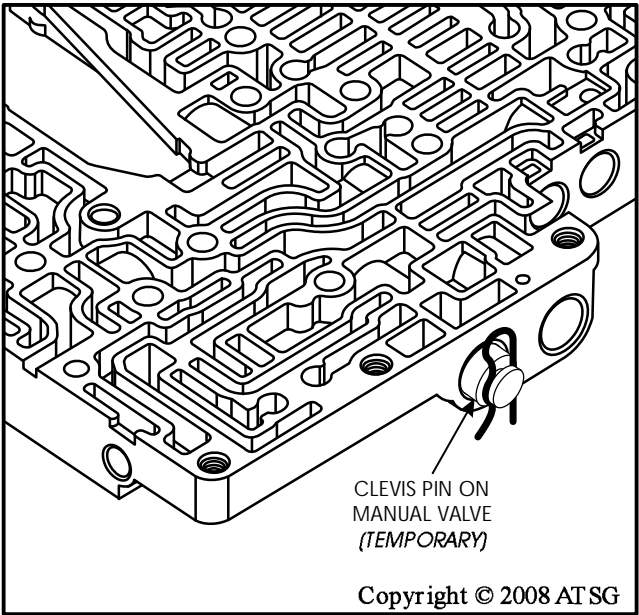

Figure 167
27. Install an appropriate size clevis pin into the groove in the exposed end of manual valve, as shown in Figure 167.